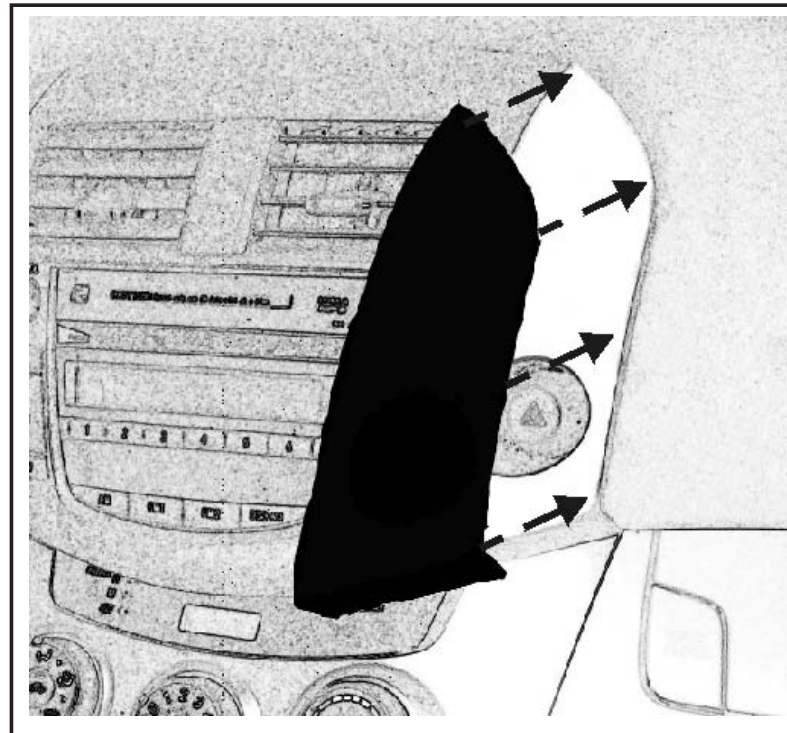

Fig. G1
- ⚠ A. Align part uniformly to edge of factory components. Edge of appliqué should be flush to edge of factory component, $\pm 1.0\text{mm}$. (Fig. G1).